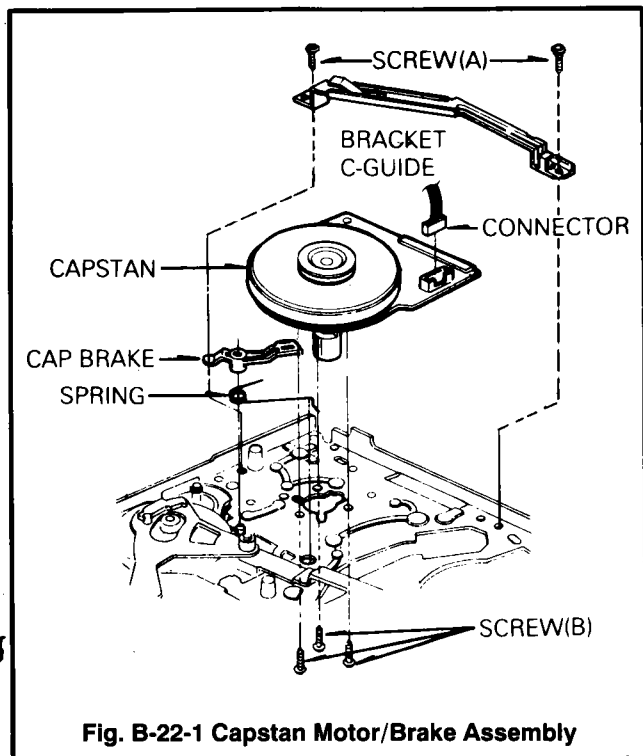

Fig. B-22-1 Capstan Motor/Brake Assembly
22. Capstan Motor and Brake Assembly (Fig. B-22-1)